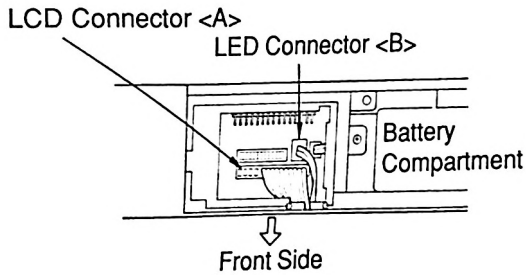

Figure 7
- (10) Disconnect the LCD connector <A> and the LED connector as shown in Figure 7.